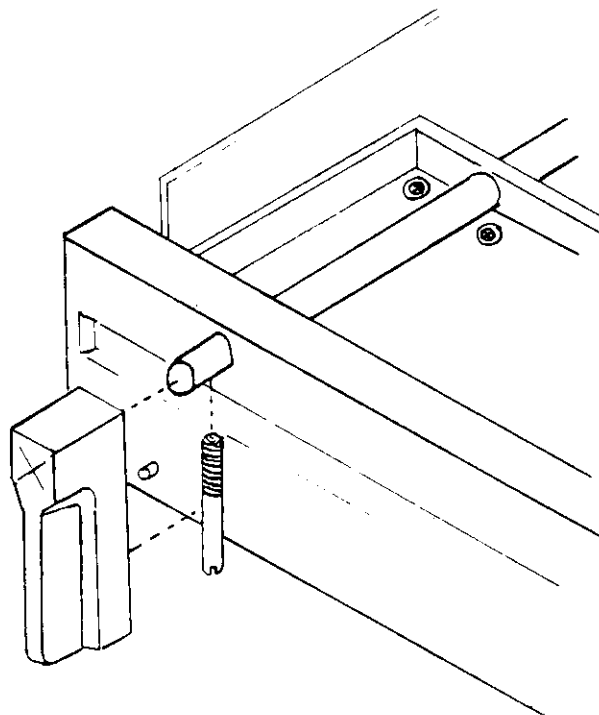

FIGURE 6-3
1. Using a flat blade screwdriver, pry off the plastic door handle (Figure 6-3).